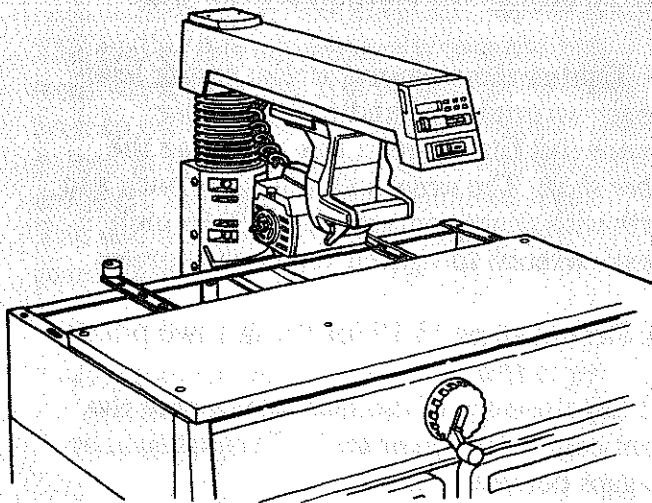

Fig. 102
24. Unlock the *bevel lock* and return the *motor* to its original position with the *arbor shaft* parallel to the *table*. (Figure 102)